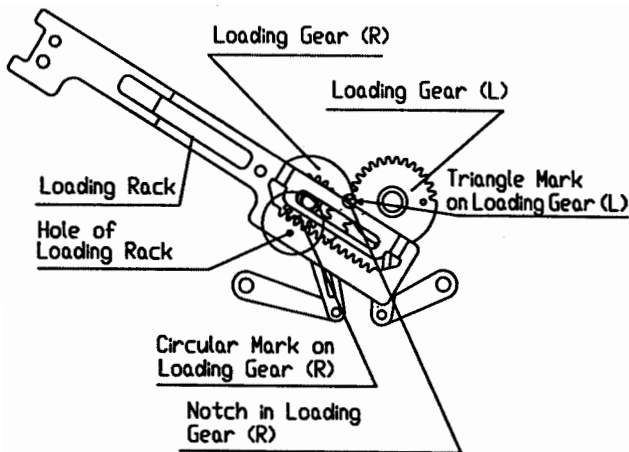

Fig. 20- Loading Gears/Loading Rack Alignment
- When reinstalling, realign the gears as shown in Fig 20.